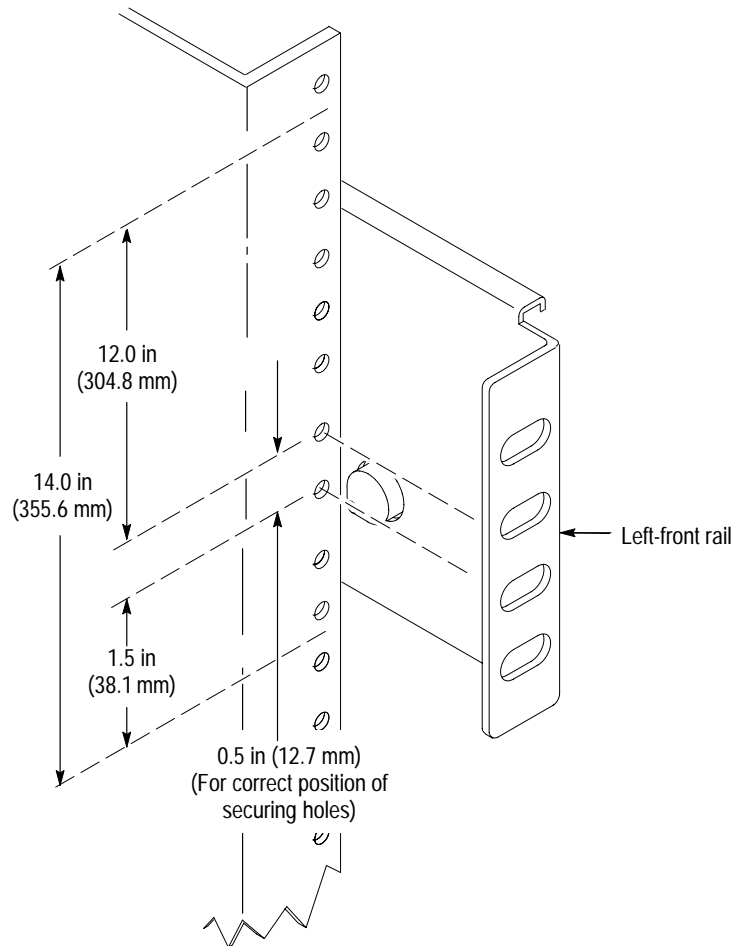

Figure 1-8: Vertical clearance for rack installation (standard mainframe)
6. Select the mounting position in the rack: select two 0.5-inch spaced holes in the front rail and verify that the 1.5-inch and 13.25-inch clearances exist relative to the mounting holes as shown in Figure 1-8.